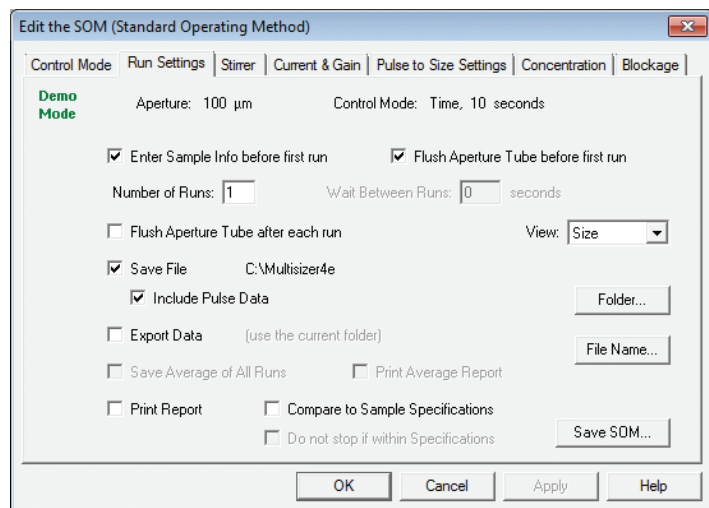

Figure 4
2. When satisfied with Preview, cancel it and run three blanks using the same Control Mode that will be used in your SOM when formally running the samples, i.e. Volumetric or Time mode; flush before run, etc. See Figure 4 below.